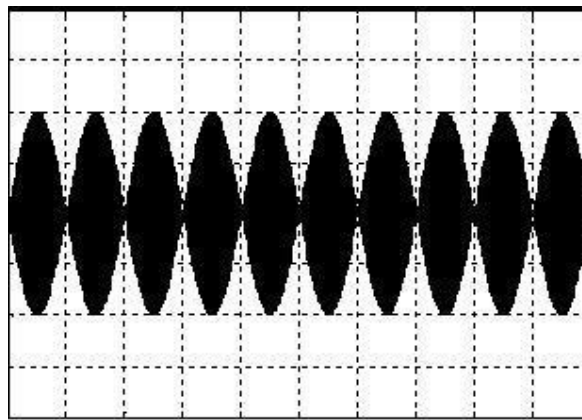

Fig. 1
7. Vary the Frequency and Amplitude of Audio Generator section and observe the changing in the modulated waveform as shown in Fig. 1.